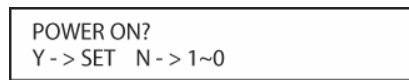

Figure 134
9. If the device being programmed does turn off after following the instructions in Step 7, you will need to verify the code set by pressing the **Alphanumeric Keys [triangle 43]** in sequence, as instructed in **Figure 134**. Point the remote at the device being programmed, and press the **"1" Button [triangle 43]** to see whether the device turns back on.
10. After pressing and releasing the **"1" Button [triangle 43]**, check to see whether the device has turned back on. If it has, skip to Step 12. If it does not turn off, press the **"2" Button [triangle 43]**, or the next button in the numeric sequence if you are repeating the procedure, as instructed by the LCD screen in **Figure 134**.
12. When pressing one of the numeric keys in Step 10 or 11 causes the device being programmed to turn back on, follow the instructions shown in **Figure 134** and press the **Set Button [triangle 15]** within five seconds of the device turning on. After you press the **Set Button [triangle 15]**, the top line of the LCD display will read SAVING... and then the word SAVED will flash four times in the center of the bottom line.